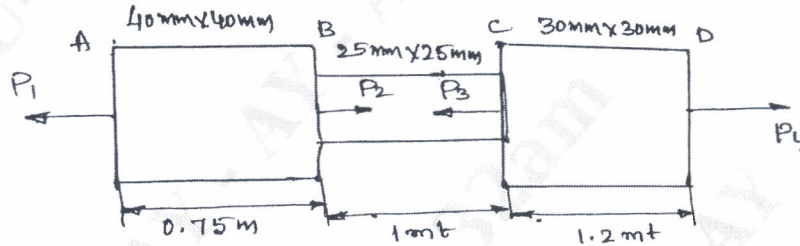

Fig.Q1(b)
- b. A member ABCD is subjected to point loads P_1 , P_2 , P_3 and P_4 as shown in Fig.Q1(b). Calculate the force P_3 necessary for equilibrium if $P_1 = 120$ KN, $P_2 = 220$ KN, and $P_4 = 160$ KN. Determine also the net change in the length of the member. Take $E = 200$ GPa.